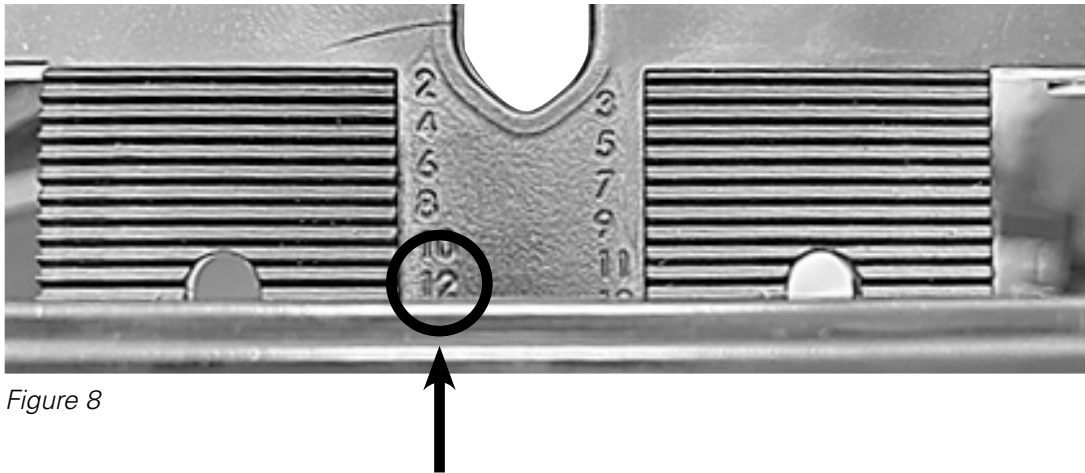

Figure 8
9. On the back side of the height slider, review the numbers shown in the middle. Take note of the lowest number that is fully visible. This reference is the height position for your tablet and will help in the next step. (figure 8)